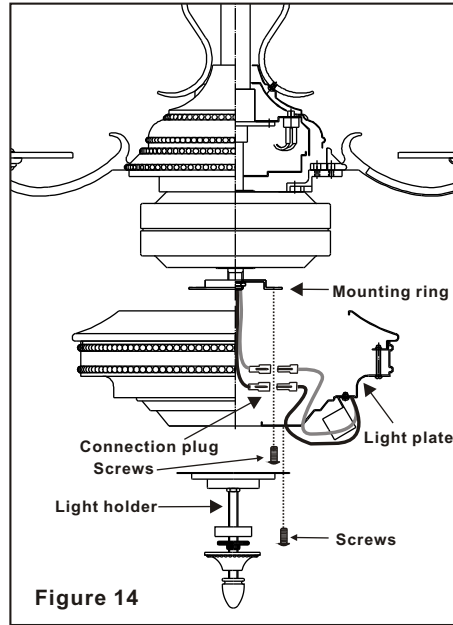

Figure 14
2. Raise and hold the light plate close to the mounting ring and proceed to do the wire connections. Connect the white wire connectors from the light plate and fan, follow the same procedure with the black and blue wire connectors. (Fig. 14)
3. Carefully push all wires back into the mounting ring, then install the light plate onto the mounting ring with the 2 screws previously loosened and the one previously removed. Be sure to tighten all screws. (Fig. 14)
5. Install the light holder onto the light plate with the 3 screws previously loosened. Be sure to tighten all screws. (Fig. 14)